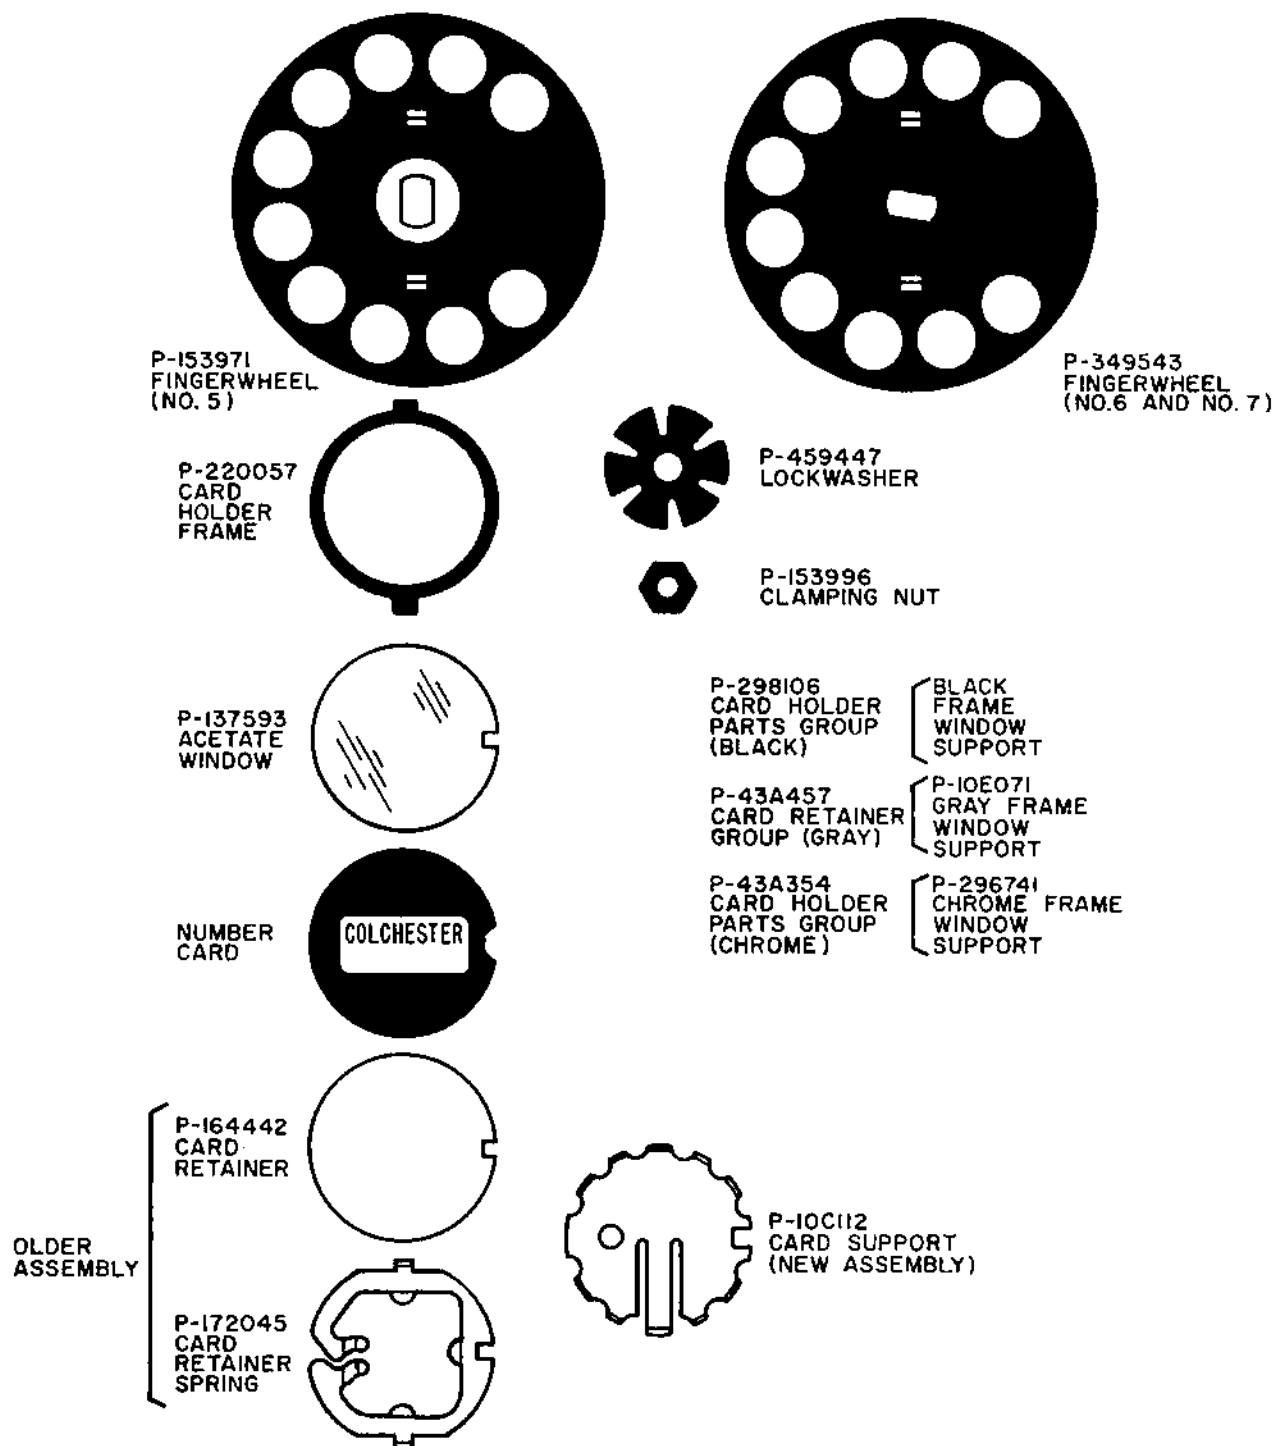

Figure 6. WECo Metal Fingerwheel Assemblies.
3.06 The WECO P-153971 fingerwheel is stamped from sheet aluminum (early production was of brass) and is a perfectly flat disc with chamfered finger holes and a center opening to accept the hub of the shaft on a Number 5 dial. The P-349543 fingerwheel is similar except for the size and orientation of this opening, which is arranged to fit a Number 6 or 7 dial. Six or seven additional parts are required for mounting and identification purposes (Figure 6).